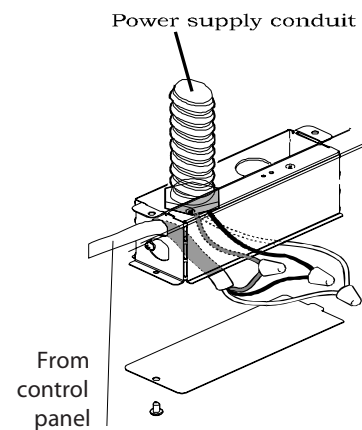

Figure 7
- Remove the j-box cover as shown in Figure 7 .